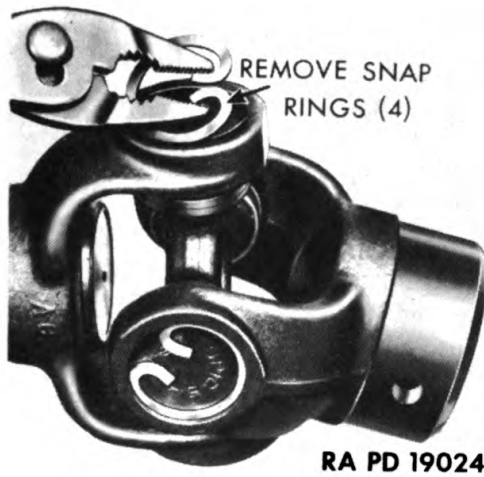
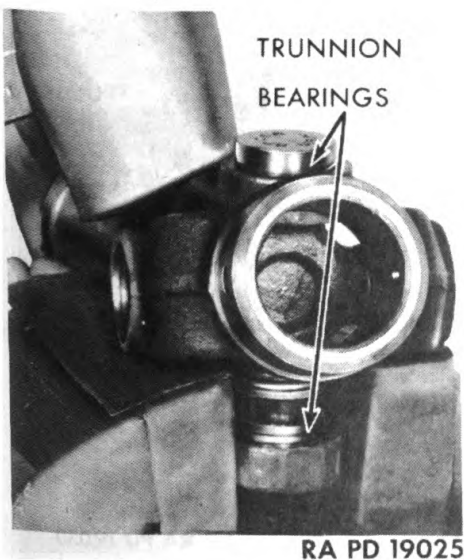
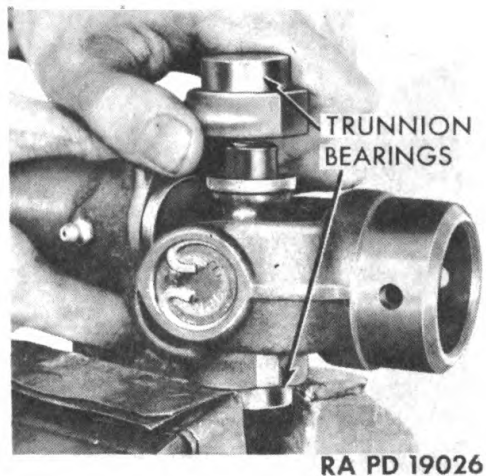

Figure 97 — Removing Trunnion Bearing Snap Ring
Figure 98 — Loosening Trunnion Bearing
Figure 99 — Removing Trunnion Bearing
(1) REMOVE JOURNAL FROM SLIP JOINT SLEEVE YOKE AND FROM SLIP JOINT YOKE. Support drive shaft in protected vise jaws, and remove snap rings from grooves above trunnion bearings (fig. 97). Support slip joint yoke on vise jaws, and strike slip joint sleeve with lead hammer to force trunnion bearings from slip joint sleeve bores (fig. 98). Remove one bearing by holding in vise and working slip joint sleeve yoke off bearing (fig. 99). Remove slip